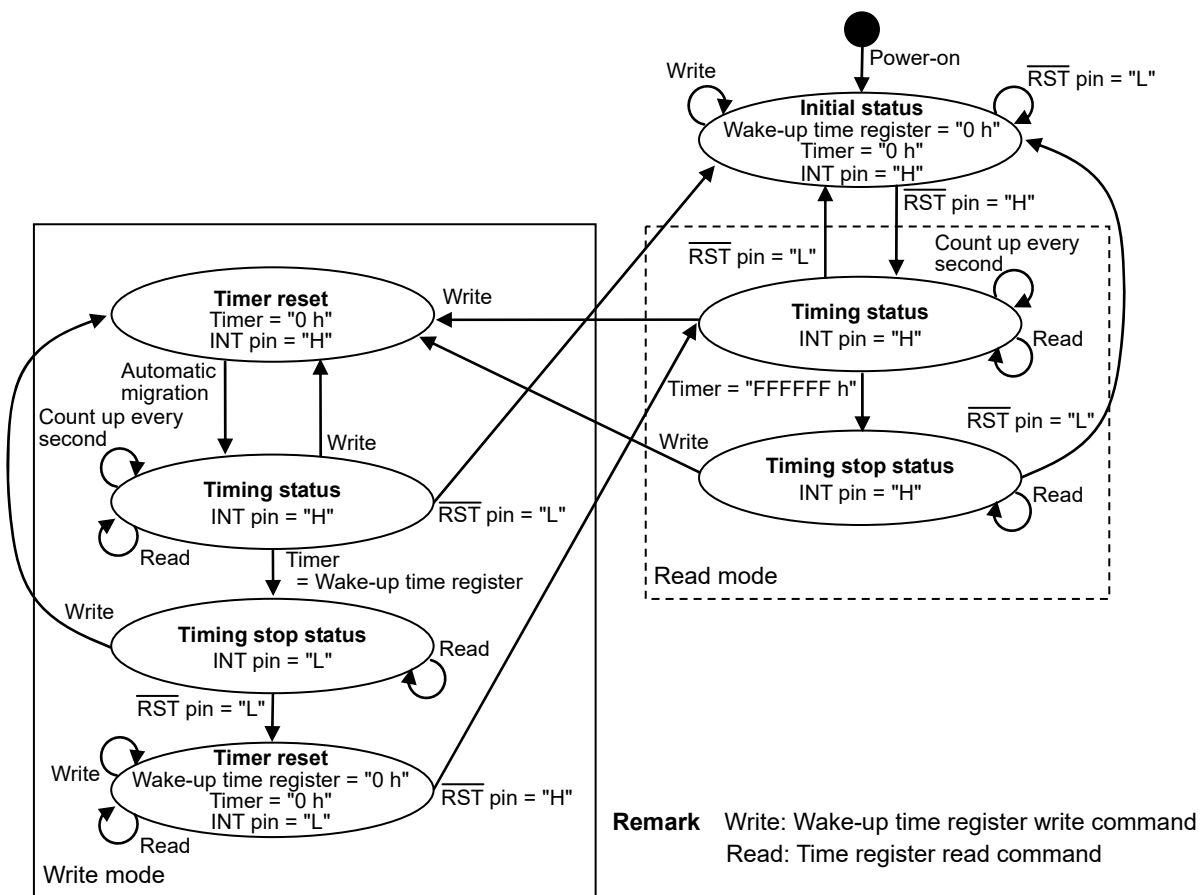
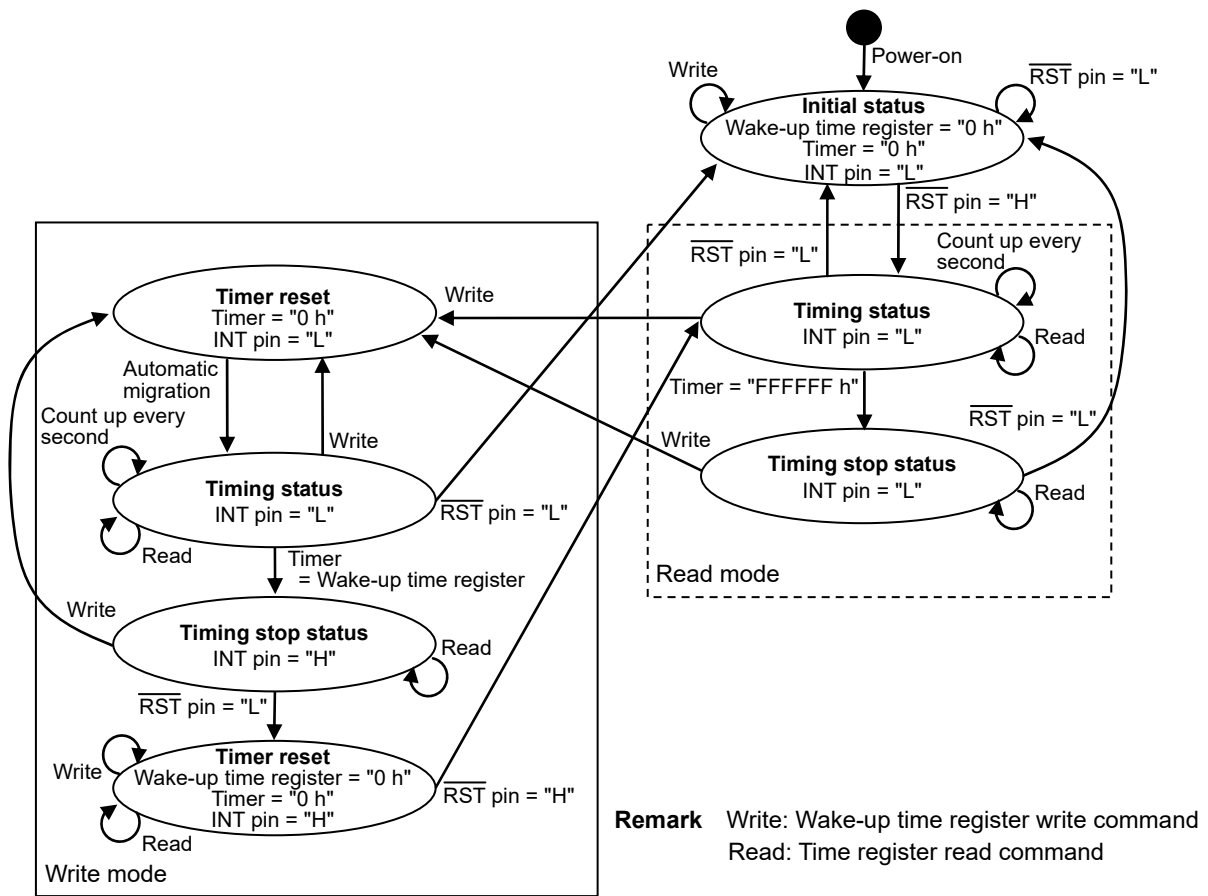

Figure 20 Status Transition Diagram of Handshake Time-out (Nch Open-drain Output)
Figure 21 Status Transition Diagram of Handshake Time-out (CMOS Output)
**Figure 20** and **Figure 21** show the status transition diagrams about the handshake time-out operation.